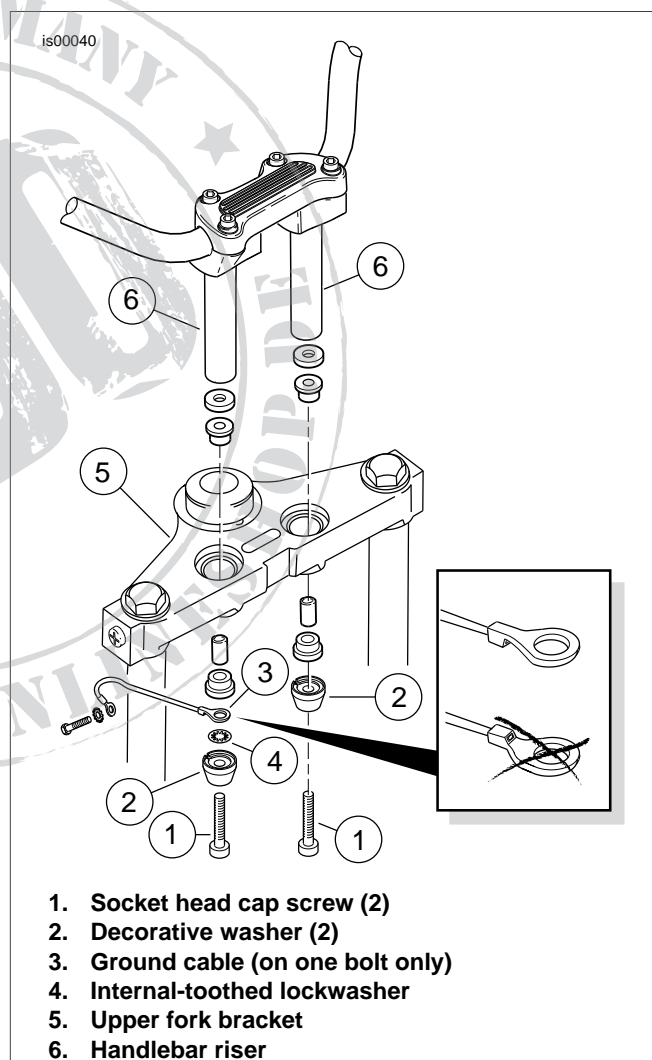

Figure 1. Handlebar Clamp Hardware (FXSTB/I Shown)
1. See Figure 1. Remove and discard one of the hex head bolts and split lockwashers (not shown) that fasten the handlebar risers (6) to the upper fork bracket (5).
The ground cable **terminal** must be installed with the wire side **down** (toward the lockwasher). See Figure 1 inset.